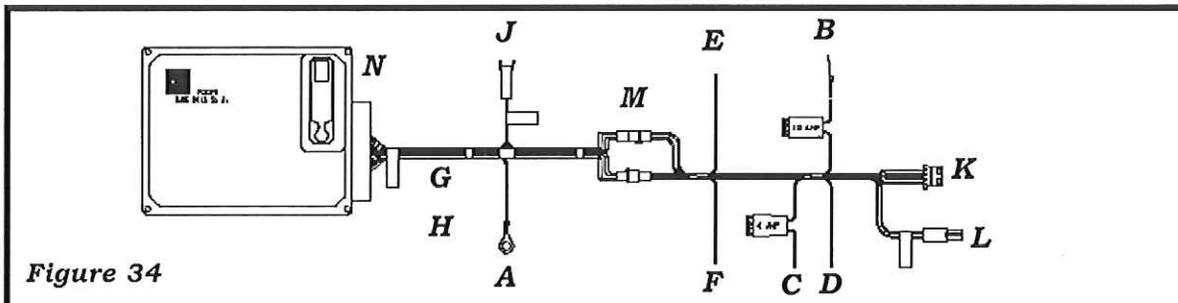

Figure 34
- B. Straighten the **CRUISE HARNESS** and find the **2- & 4-pin** mating connectors. Separate the **2- & 4-pin** connectors. A small screwdriver may be needed (See **K** in **Figure 34**).
Utilize **Figure 34** to make the necessary wiring harness connections to your vehicle.
The **Gray Vehicle Speed Signal (VSS)** wire is how the **GlobalCruise** “knows” how fast the vehicle is moving. The **Pulses Per Mile/Kilometer (PPM/PPK)** are a characteristic of the vehicle and must be set accordingly (See **Page 7**). If **VSS** cannot be located on the vehicle then an auxiliary road speed sensor must be used [**Signal Generator or Magnet & Coil Pick-Up Kit (Kit# 250-4165)**]. If you use an auxiliary speed sensor, plug it into auxiliary speed sensor connector (**J** in **Figure 34**) and trim the **Gray VSS** wire as not to pick-up any stray signals.
This connector is used in conjunction with the **4-Pin Switch Connector (H in Figure 34)**. The **2-Pin Switch Connector (J in Figure 34)** is utilized by control switches which require an additional power and ground source such as those containing an **LED** indicator light or **rostra Radio Frequency (RF)** models.